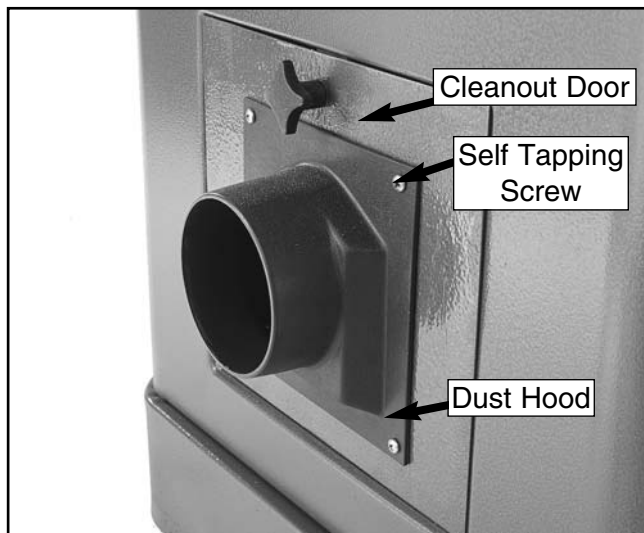

Figure 11. Installing dust hood.
2. Using (4) #8 x $\frac{3}{8}$ " Self Tapping Screws and #8 Flat Washer, screw the dust hood to the cleanout door.
3. Be sure to orient the dust hood so the 4" flange is on the lower half of the dust hood when installed as shown in **Figure 11**.